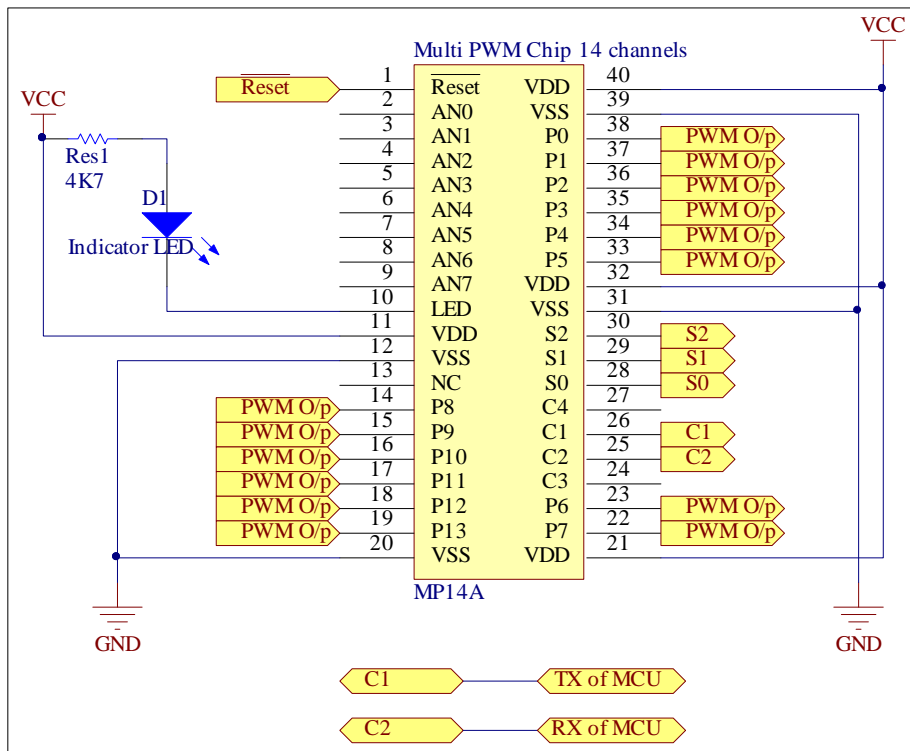

Figure 5-5 Example connection of multi PWM chip for UART mode.
Figure 5-5 above is example connection of multi PWM chip for UART mode. S2, S1 and S0 pin is connect to I/O pins of MCU. C1, which is UART Receive (RX) pin of multi PWM chip is connect to UART Transmit (TX) pin of MCU. C2, which is UART Transmit (TX) pin of multi PWM chip is connect to UART Receive (RX) pin of MCU.